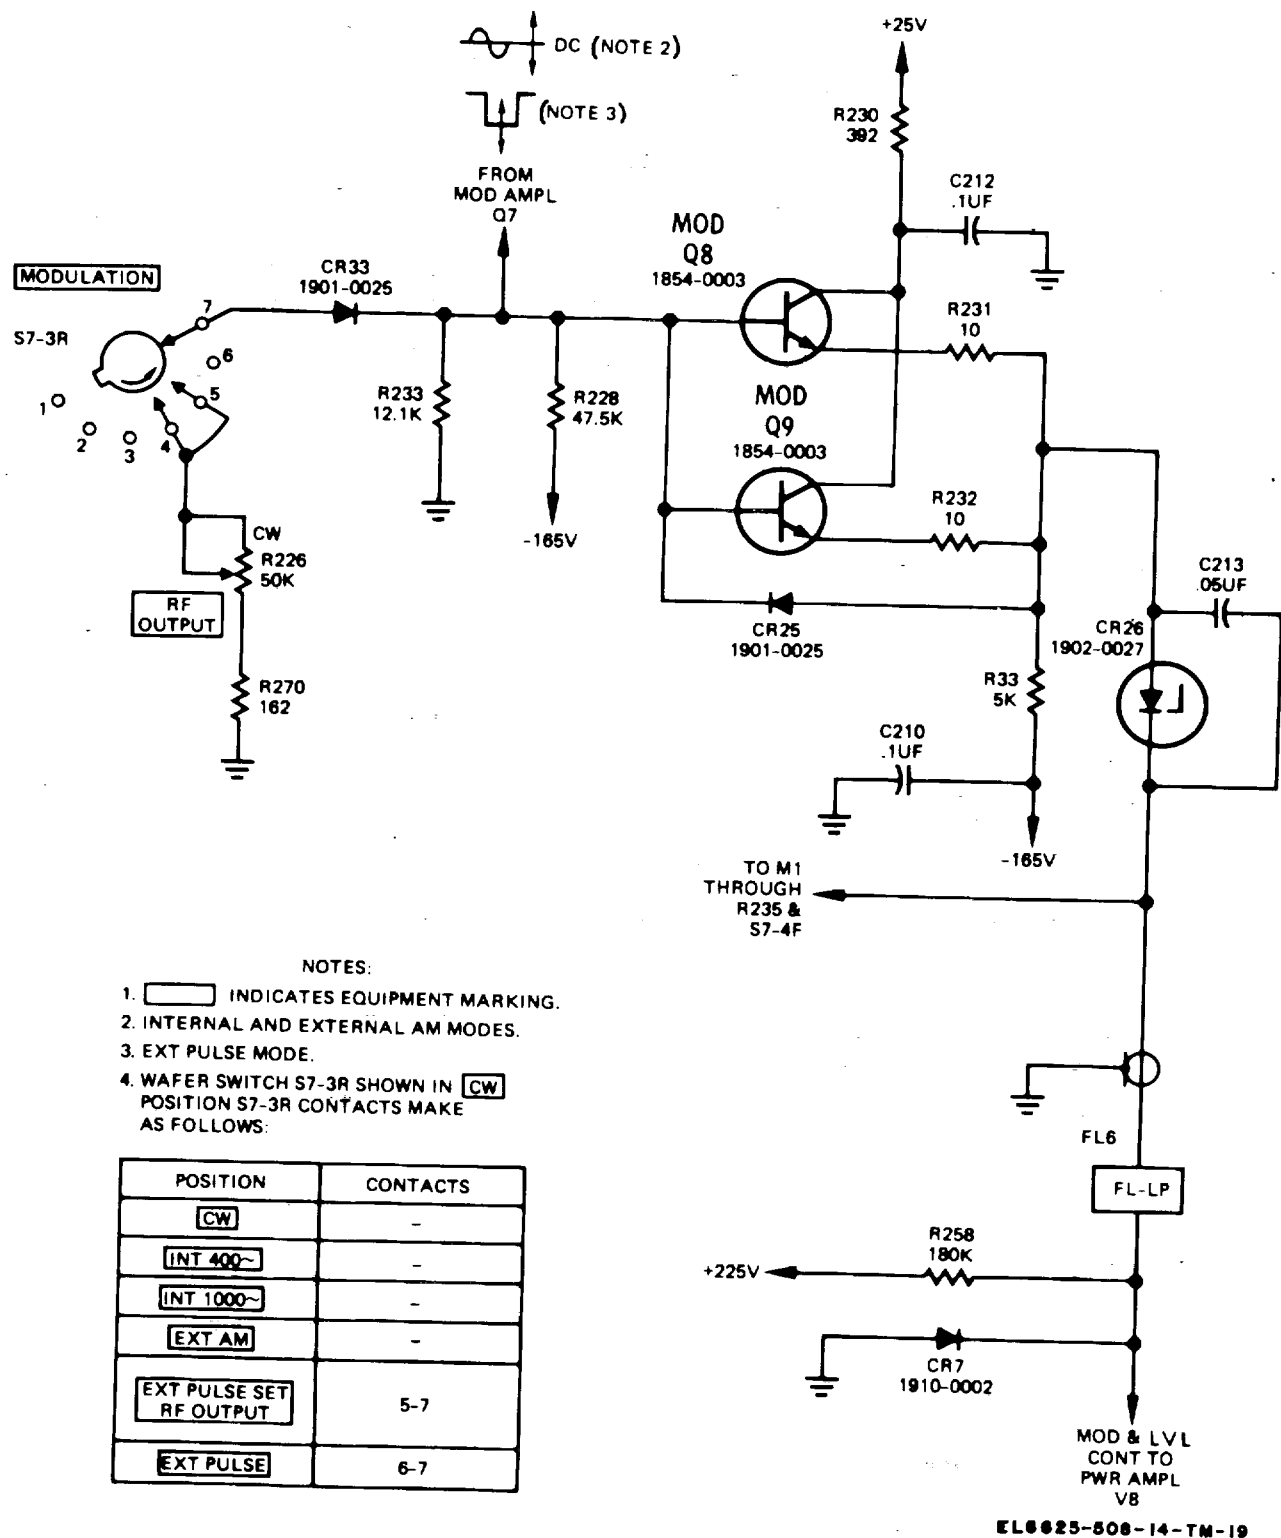

Figure 5-10. Modulator circuit, schematic diagram
a. Modulators Q8, Q9 are parallel-connected emitter-follower (fig. 5-10).